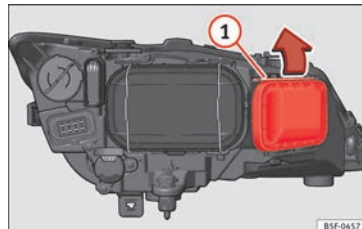

Fig. 105 Turn signal bulb.
- Move the loop » **Fig. 105 ①** in the direction of the arrow and remove the cover.